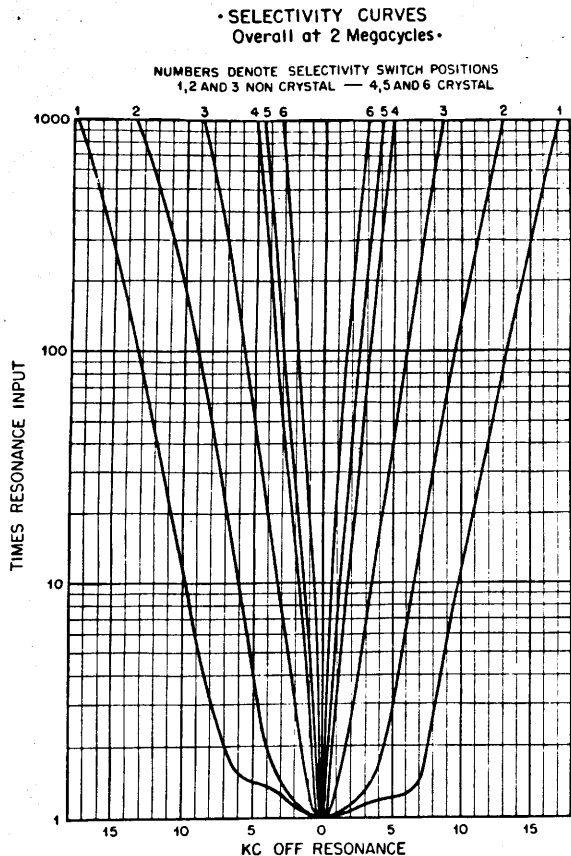

Figure 4: SP-600 Selectivity Option Curves
**SELECTIVITY.** (Figure 4) Selectivity is variable: 13, 8 and 3 kHz bandwidths are available without the crystal filter. With the crystal filter, bandwidths are 1.3, 0.5 and 0.2 kHz. The filter's phasing knob allows for the frequency adjustment of the single notch. When properly adjusted, the single pole crystal filter provides very, very good single signal CW reception using the narrow bandwidths.